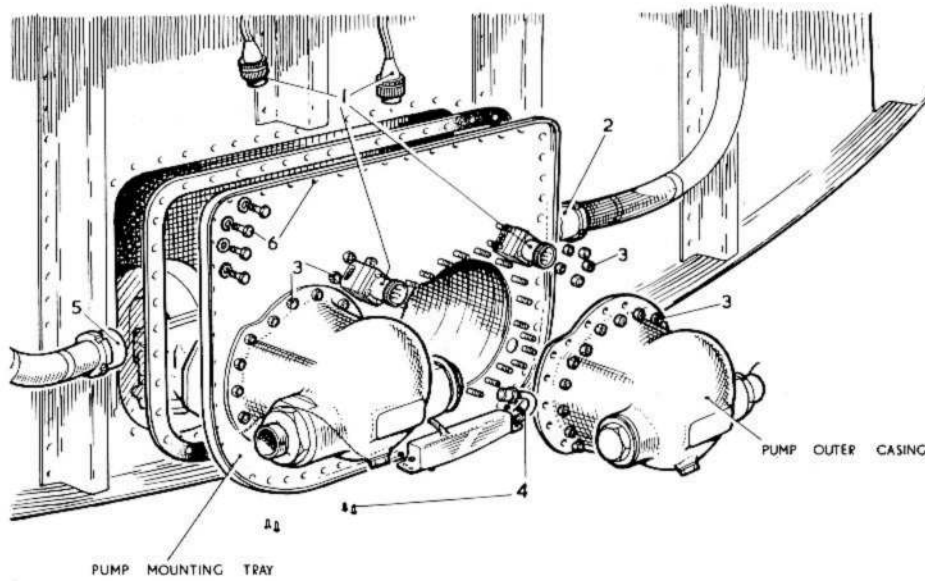

Fig.9 Fuel pump removal - No. 6 tank
56. To remove the fuel pumps from No. 6 tank refer to fig. 9 and proceed as follows:-